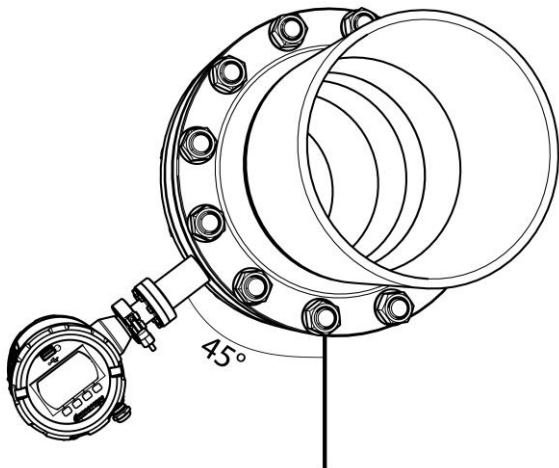

Figure 2-2: Horizontal pipe mounting example
- For the most reliable measurements, an installation sidewise in a 45° angle, as seen/measured from the bottom of the pipe is recommended (Figure 2-2);